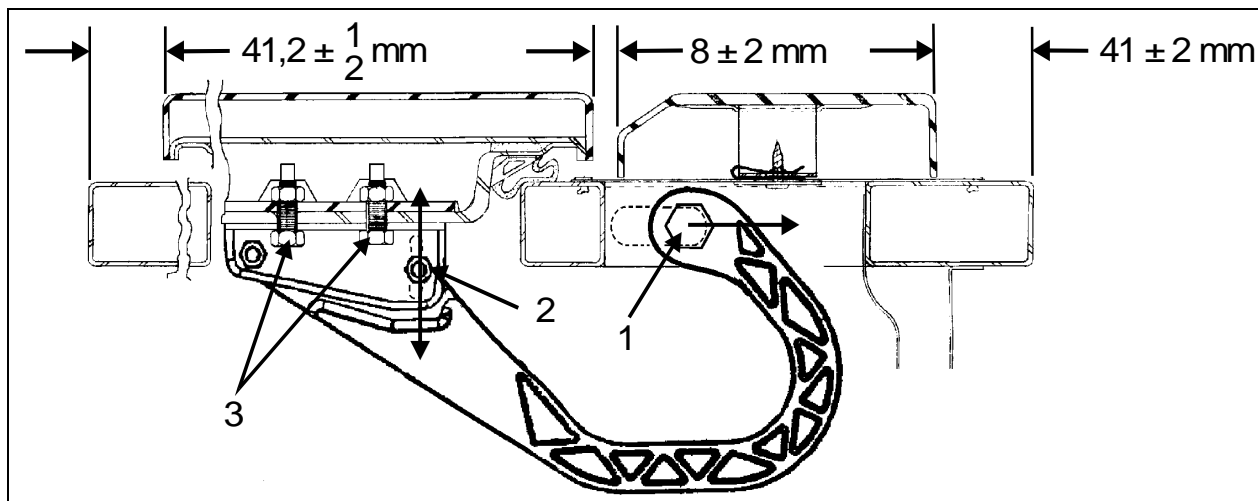

FIGURE 75: EVAPORATOR DOOR
8. Loosen screws (4, Fig. 75).
6. Adjust the door in accordance with the required distance between exterior finishing parts (Fig. 75).
8. Adjust the door position according to the distance required between exterior finishing parts (Fig. 75).